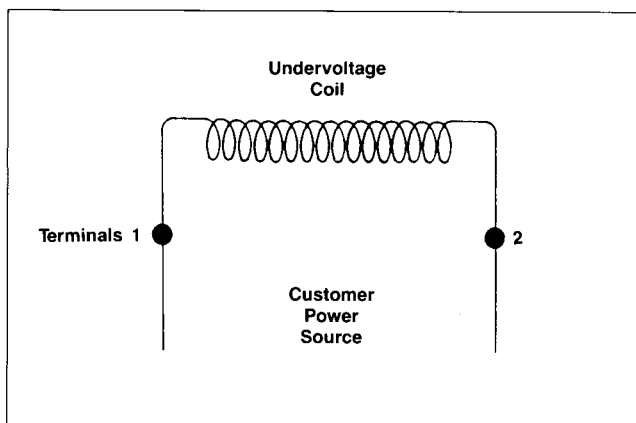

Figure 2
- With the circuit breaker in the OFF position, apply variable voltage supply leads to the accessory terminals marked 1 and 2 (Figure 2).